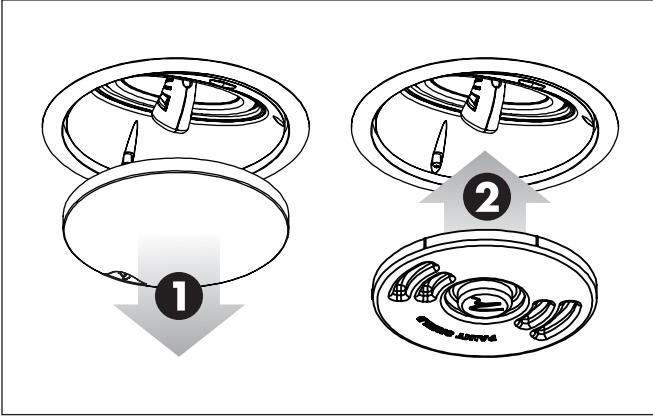

Figure 12. Painting the speaker frame.
- 1 Remove the grill from the Helos 100 (see figure 12).
- 2 Press the paint shield into place (see figure 12).